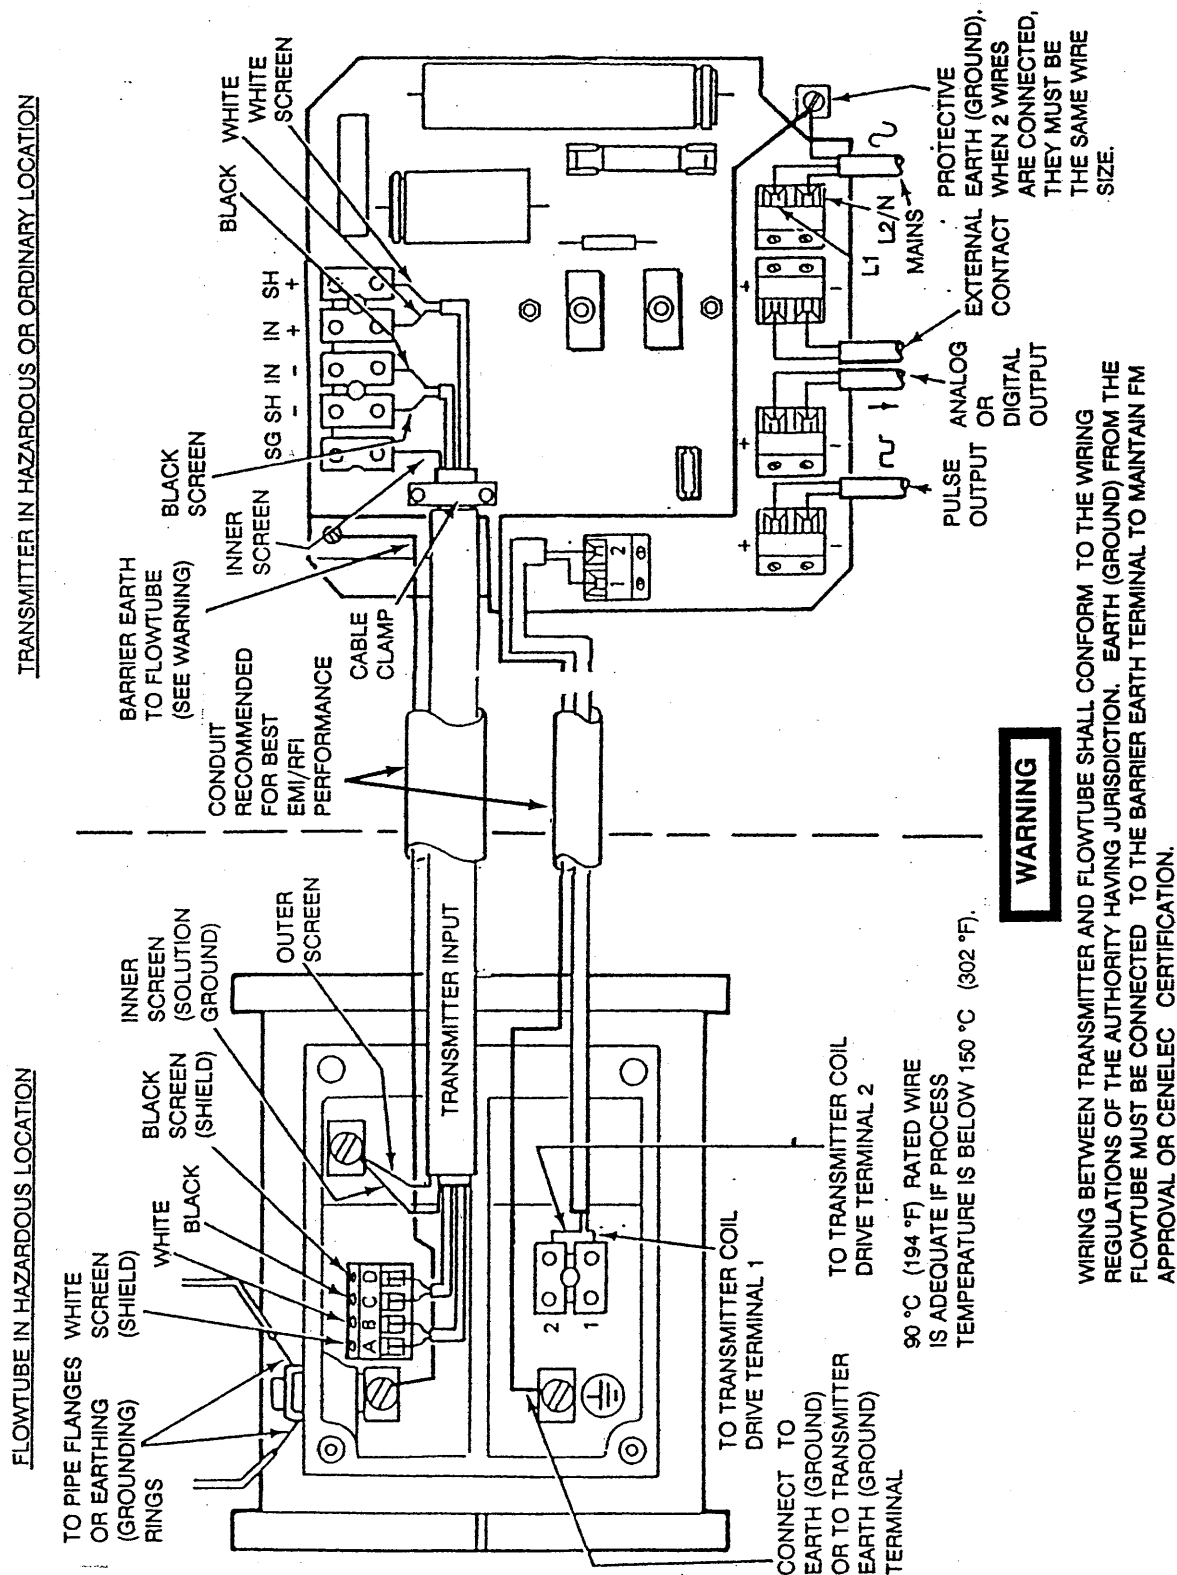

Figure 35. Flowmeter Wiring with Wafer-Body Flowtube for use in Hazardous Locations
2. Connect input-signal wires to flowtube output terminals as shown in Figure 33 or Figure 35, as applicable.
7. Connect input-signal wires from flowtube to transmitter input terminals as shown in Figure 33 or Figure 35. Clamp cable over its inner jacket as shown.
11. Connect coil-drive, mains and earth (ground) wires to transmitter terminals as shown Figure 33 or Figure 35. Be certain that earth (ground) wires are connected as shown. Tighten optional gland compression nuts if applicable.
If a negative flow or "-A" is read on display during process flow, direction of flow does not correspond with coil-drive wiring. Disconnect flowmeter power and reverse coil-drive wires inside transmitter. Wires are shown in Figure 33. Reverse flow or wiring may be confirmed by momentarily depressing the "SET" pushbutton while observing the display or output for indication of flow. If normal operation is indicated, release pushbutton, disconnect flowmeter power and reverse coil-drive wires inside transmitter. Wires are shown in Figure 33 or Figure 35.